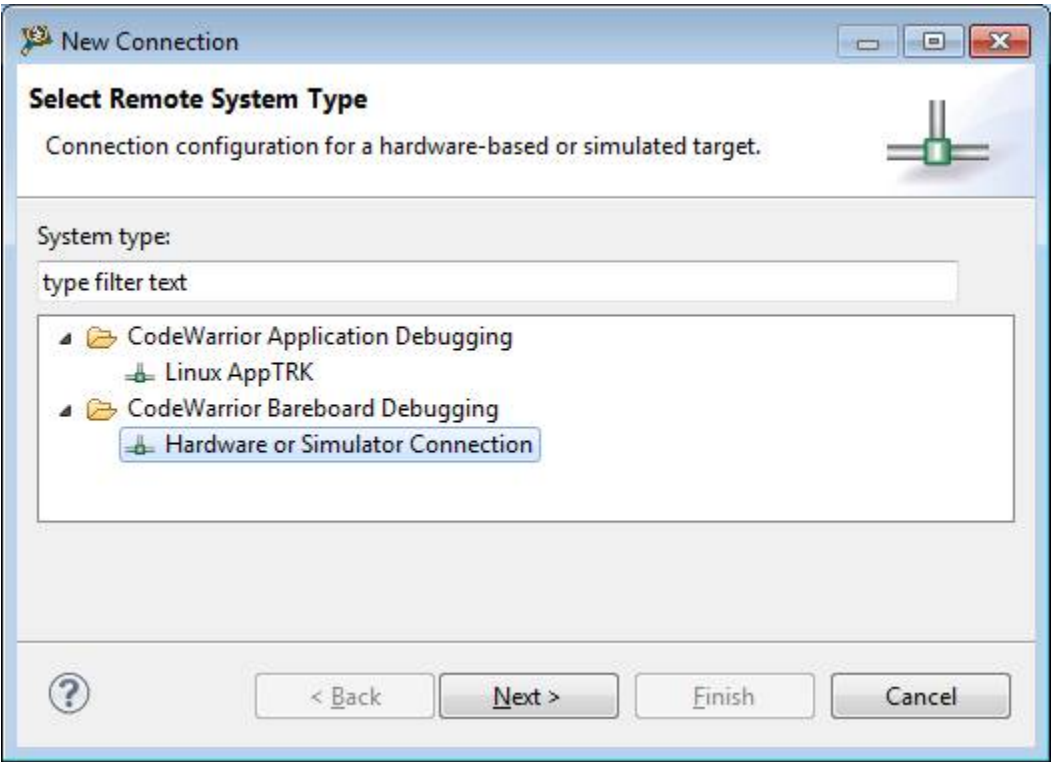

Figure A-3. Setting CodeWarrior Remote System Type
4. Select Hardware or Simulator Connection, and Click **Next**. See Figure A-3